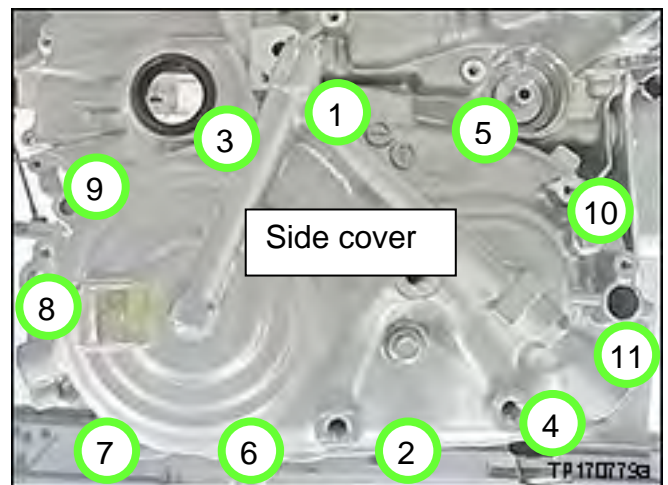

Figure 8U
10. Install eleven (11) new side cover bolts, and then torque all of the side cover bolts to the specified torque in the sequence shown in Figure 8U.